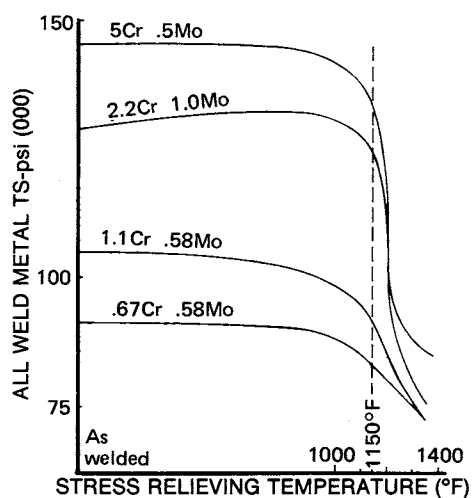

Figure 2
(1) R3R power sources are not recommended for semiautomatic applications.
- G Weld strengths of Cr-Mo deposits decrease *substantially* with stress relieving temperatures over 1150°F. See Figure 2.